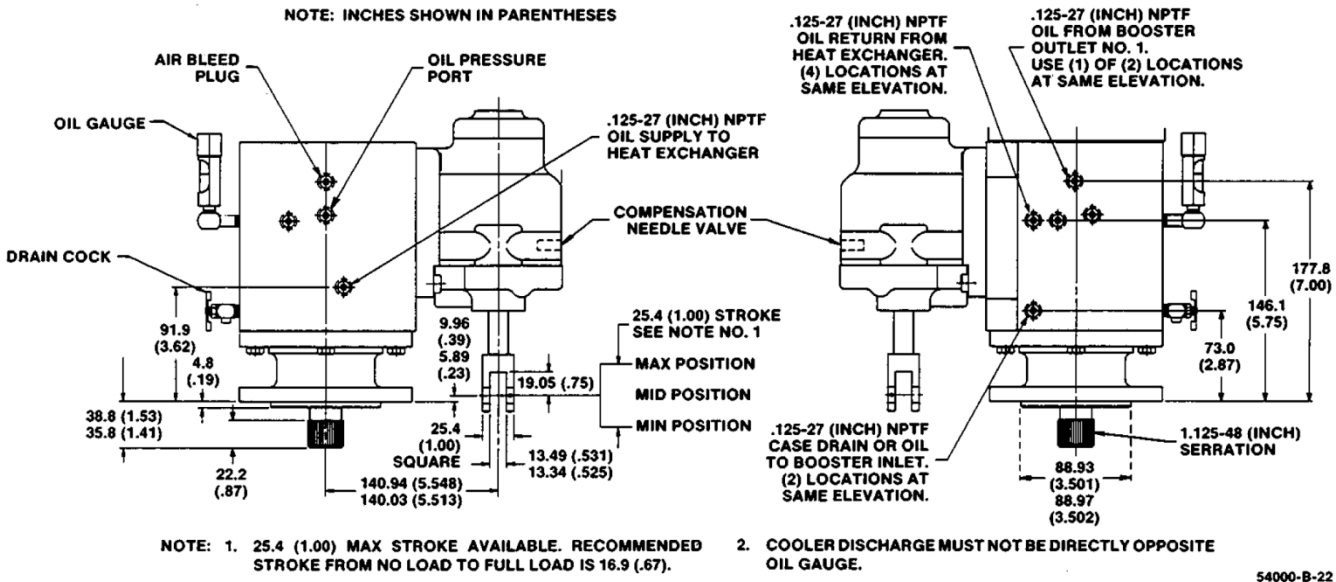

Figure 5. Case Connections for PG Dial and Lever Governors
4. Loosen the air bleed plug on the side of the governor case enough to establish an oil leak. See Figure 5 for the location of the air bleed plug on the governor case.